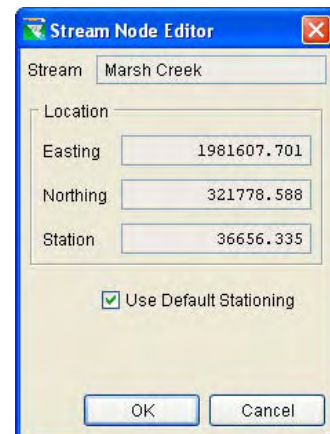

Figure 5.17 Stream Node Editor
6. From the shortcut menu on the stream node, you can choose **Edit Node**, which will bring up the **Stream Node Editor** illustrated in Figure 5.17.
The **Stream Node Editor** (Figure 5.17) displays the location information for the node.